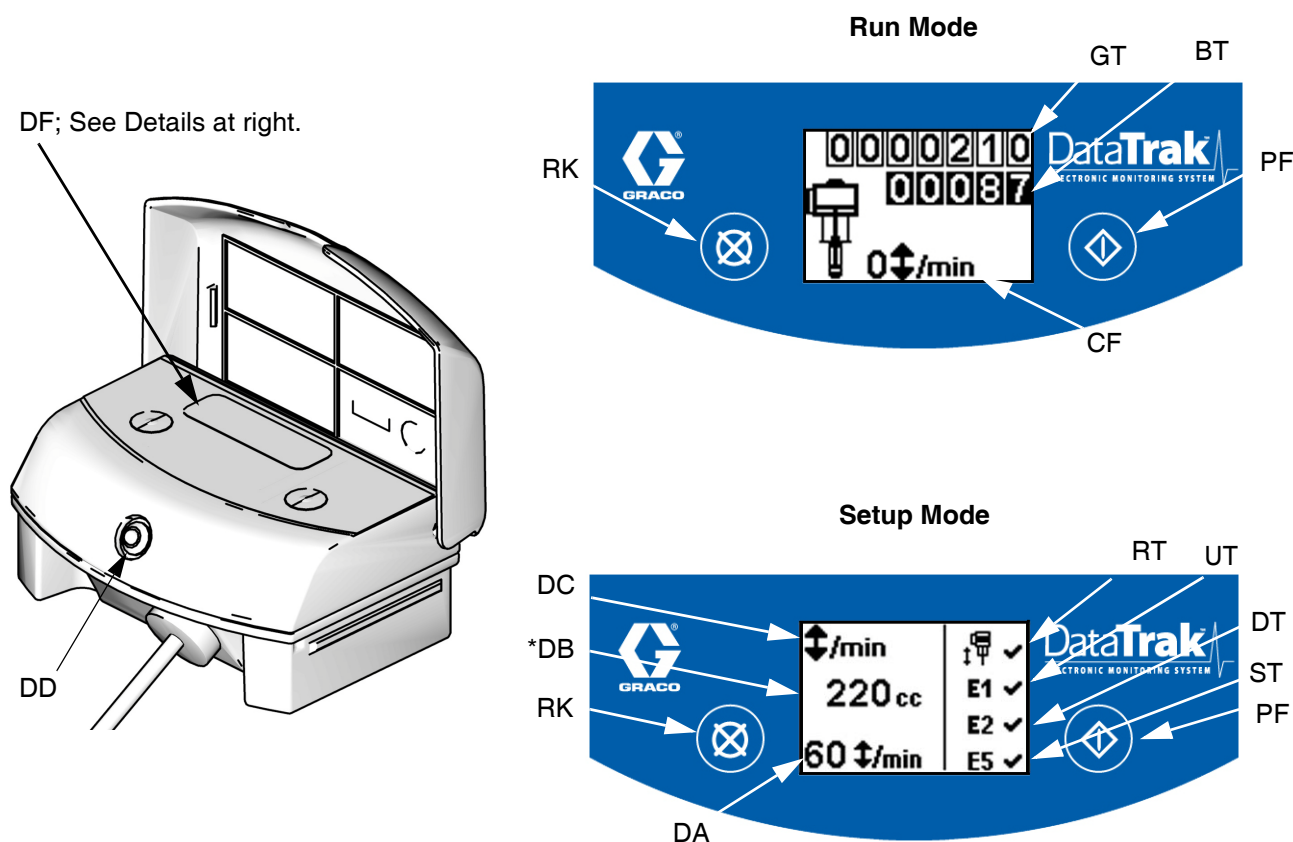

FIG. 37. DataTrak Controls and Indicators
1. Refer to **Figure 37**. Press and hold  for 5 seconds until the Setup menu appears.
1. Refer to **Figure 37**. If pump runaway occurs, the runaway solenoid actuates, stopping the pump. The LED (CD) flashes and the display (CF) indicates a runaway condition (see **Table 1** on page 32). The display cycles through six instruction screens.
2. Runaway Screens 1 and 2: To reset the runaway solenoid, close the master air valve (AP). Wait for air to completely bleed off the air motor.
1. Refer to **Figure 37**. To enter Prime/Flush mode, press any key to wake up the display, then press